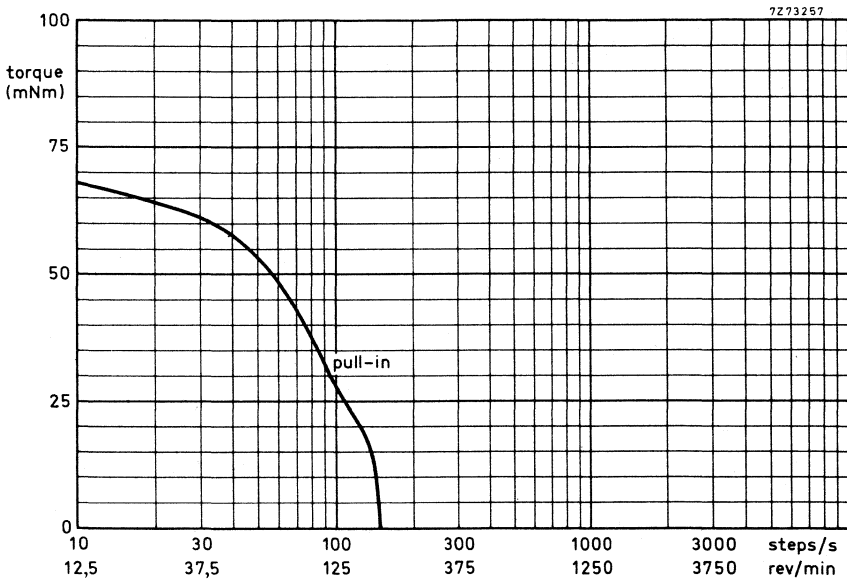

Fig. 2. Torque versus stepping rate, measured at room temperature
2) When driven by electronic switch 9904 131 03003 with RC network (see General section, Fig. 2.  $R_V = 15 \Omega$ ;  $C_V = 100 \mu F$ ;  $V_B = 12 \text{ V d.c.}$ ;  $R_S = (V_B - 5)/0,230 \Omega$ ).